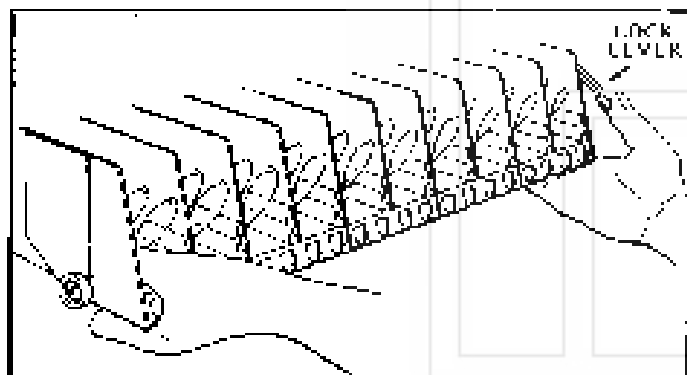
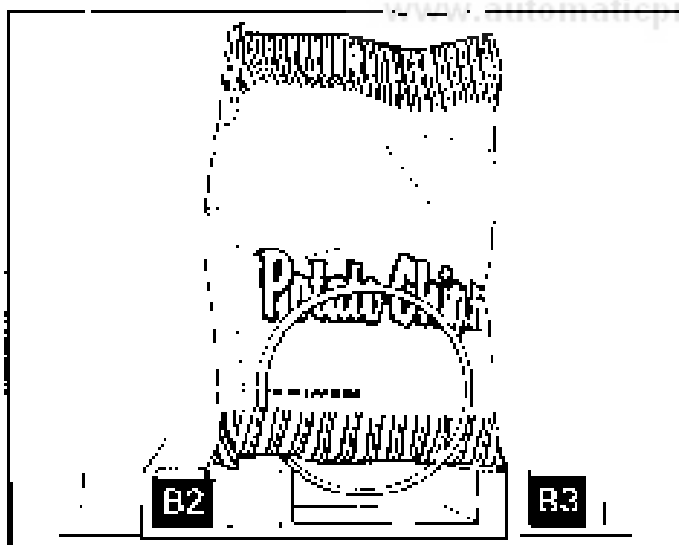
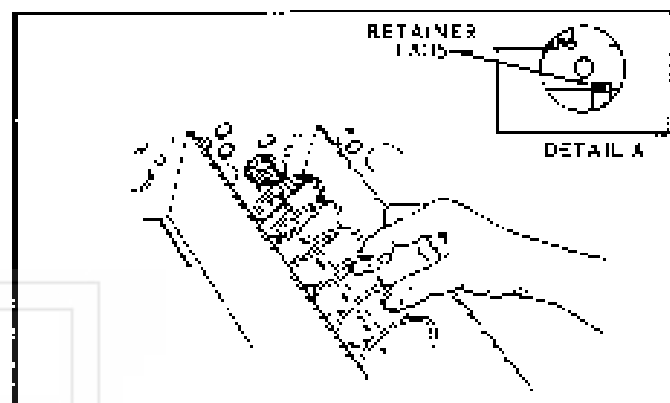

Figure 1. MOVING SHELF TO LOADING POSITION.
Figure 2. PLACEMENT OF PRODUCT ON MAIN PRODUCT SNACK SHELVES AND FRONT END POSITION OF SPIRAL.
Figure 3. REMOVING AND INSTALLING SPIRAL.
- LOADING SNACKS ON MAIN SHELF:** Open door to the proper position, push down on white plastic lock lever (Figure 1) on right side panel, the shelf to unlock the loading lever down. Grasp the shelf, raise both front corner ties (Figure 2) off from the front shelf, and gently lower main shelf ready to wrap. The wire is to be down for not need to make loading lever. Only one product size should be at the loading position at a time. When returning a shelf, be sure the shelf is in the home or send position. Begin loading with the top shelf. Move it to the loading position. The height spacing for items is greatest on this shelf and the latest, biggest items should be placed there. Soft items such as peanut bags, etc., should be placed on the lowest snack shelf, making the shelf distance as short as possible.
IMPORTANT: Product must not be forced into the spiral spaces but should fit freely. If the product is too tight, use a larger pitch spiral. The diameter of the product should be a centimeter less of the spiral wire that rests on the shelf surface (see Figure 2). The width of the product must be greater than the diameter of the snack spiral. If it is smaller, the product may fall through when in the proper front, ready to vend position.
- REMOVING OR INSTALLING:** To remove the spiral, grasp the spiral near the front of the shelf and pull forward. To install a spiral, align the hole in the cross shape at the rear of spiral with the motor shaft (see Figure 3). Be sure the front end of the spiral is positioned properly (with the front end of spiral pointing downward on the left side) (see Figure 2); slight drag between retainer tabs on spiral retainer (see Detail A, Figure 3) attached to motor shaft, push spiral to make the front tape snap over wrap (see Figure 3). Give a slight forward pull on front of spiral to check that it is locked in place.